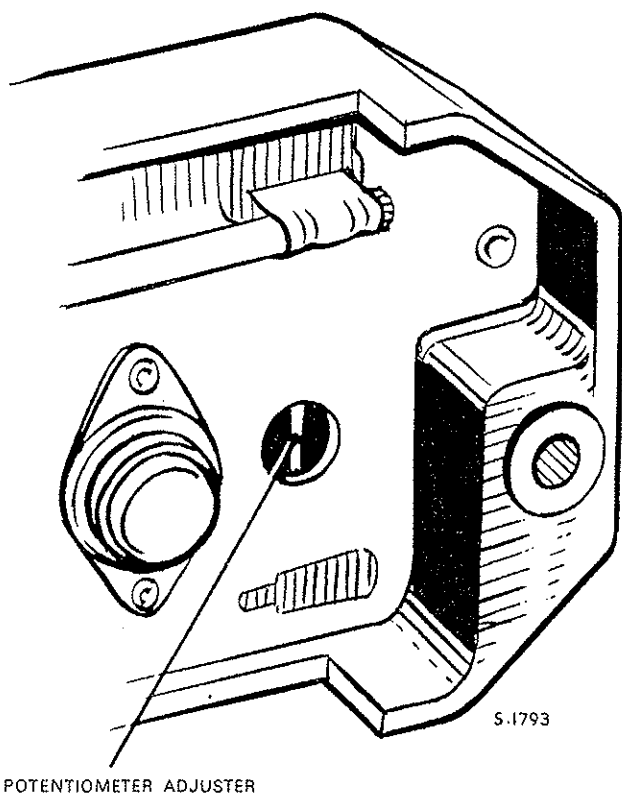

Fig. N.19. Rear view of alternator control
1. Stop the engine and withdraw the control unit mounting screws. Invert the unit and carefully scrape away the sealing compound which conceals the potentiometer adjuster (see Fig. N.19).